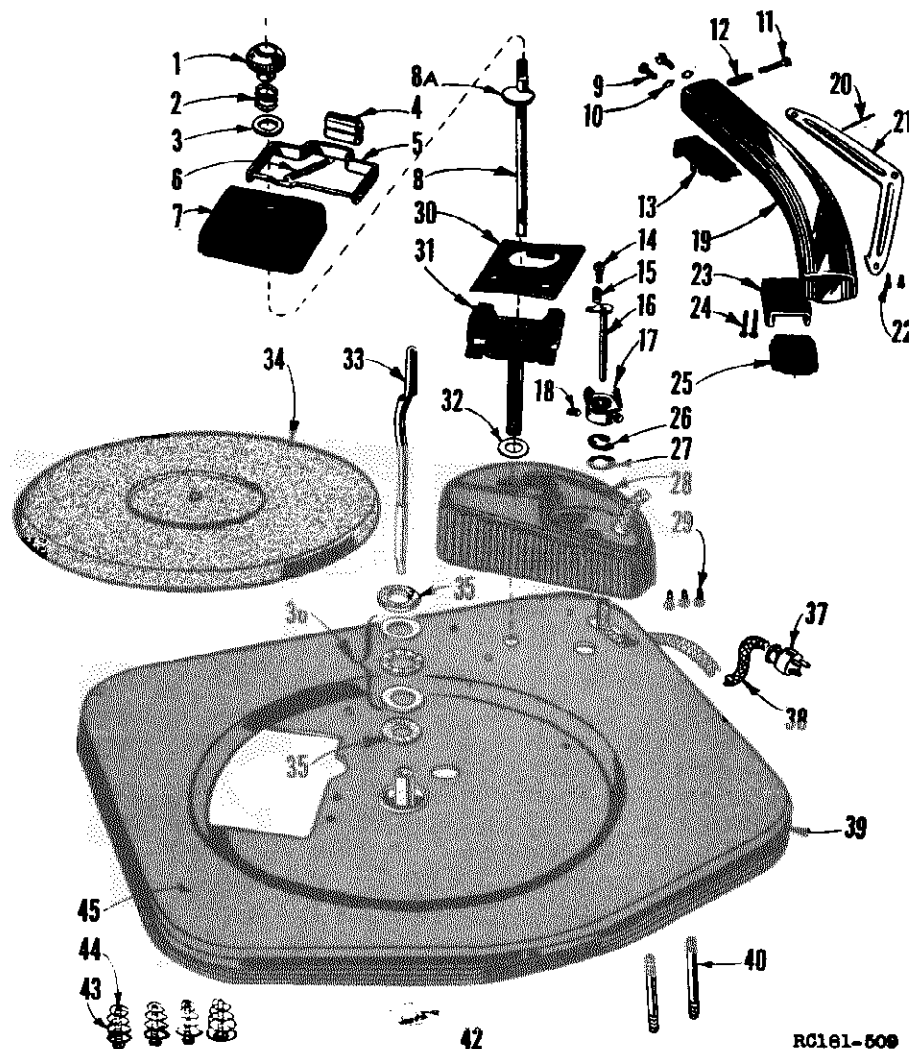

Figure 8 - Top View of Record Changer, Exploded.
The washers (35) and thrust bearing assembly (36) are removed by sliding them off of the centerpost. In replacing, have them in the order shown in Figure 8.
12. REMOVING BOTTOM COVER (91)